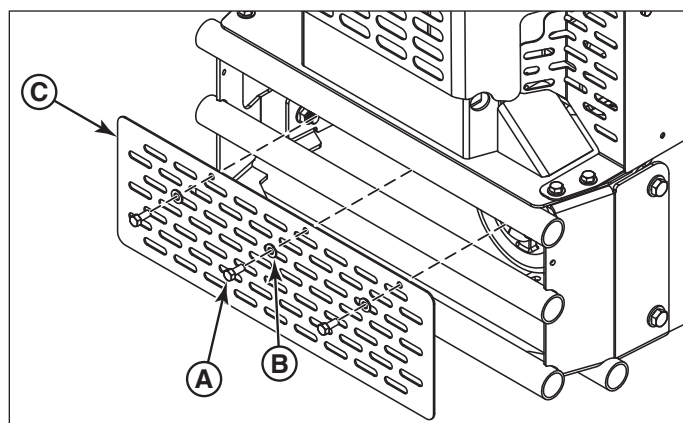

Figure 2. Removing the Belt Guard from the Rear Bumper
4. Remove the three (3) 5/16-18 X 3/4 bolts (A, Figure 2) and 5/16 SAE washers (B) that secure the rear belt guard (C) in place.
20. Re-install the belt guard (**C, Figure 2**) using the three (3) 5/16-18 X 3/4 bolts (**A**) and 5/16 SAE washers (**B**).